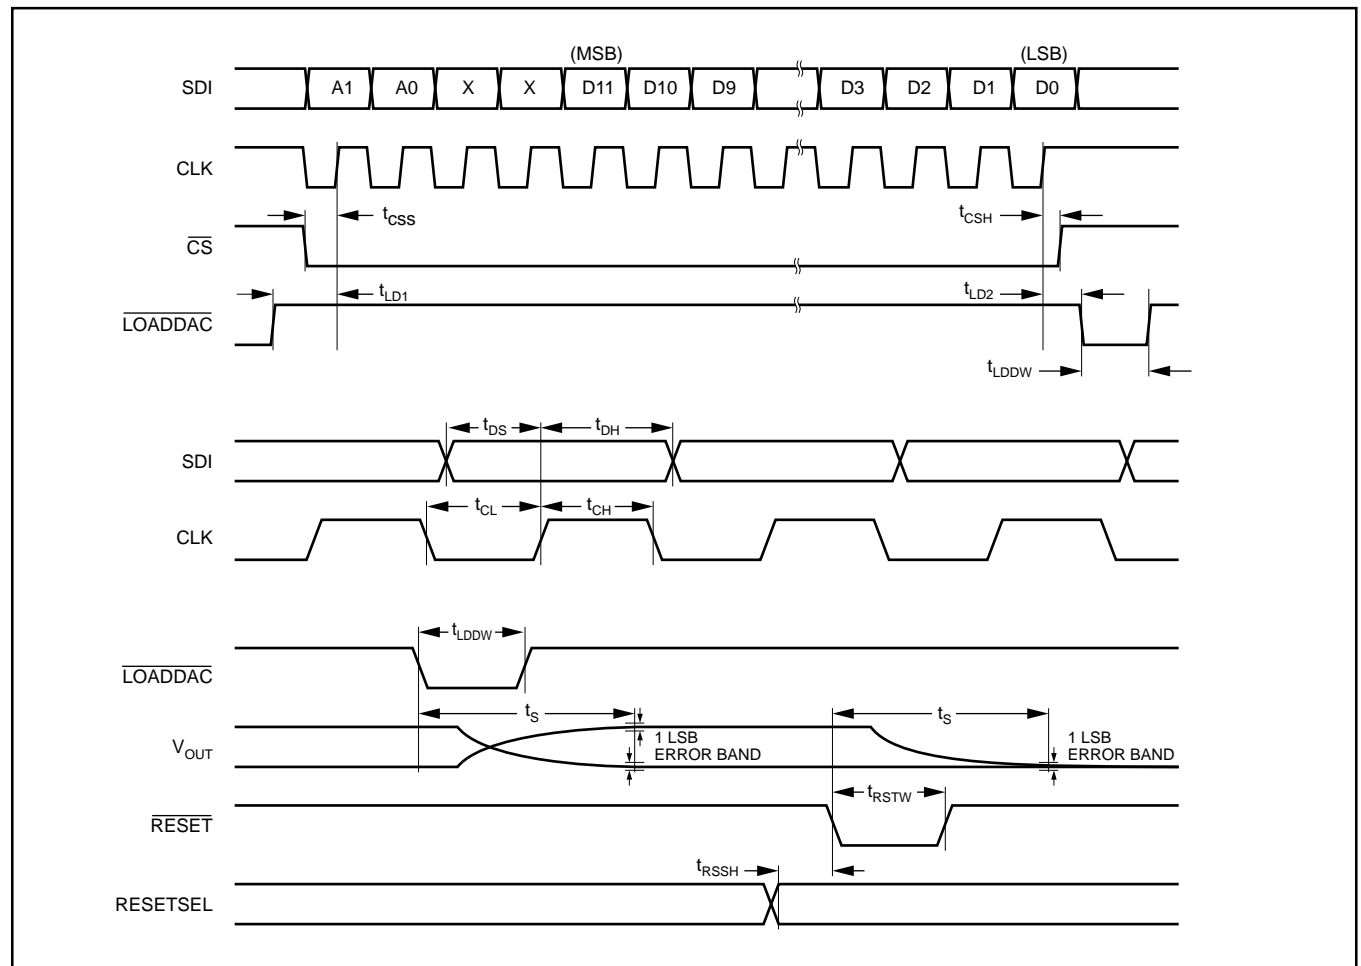

FIGURE 3. DAC7614 Timing.
Figure 3 and Table I provide the basic timing for the DAC7614. The interface consists of a serial clock (CLK), serial data (SDI), and a load DAC signal (LOADDAC). In addition, a chip select (CS) input is available to enable serial communication when there are multiple serial devices. An
The DAC code and address are provided via a 16-bit serial interface as shown in Figure 3. The first two bits select the DAC register that will be updated when  $\overline{LOADDAC}$  goes LOW (see Table II). The next two bits are not used. The last 12-bits are the DAC code which is provided, most significant bit first.